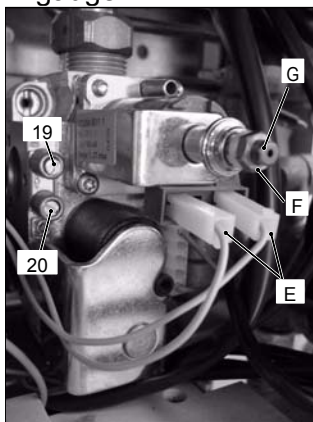

Figure 15.6
- Open the gas valve inlet pressure test point (20 in Fig. 15.6) at the valve input, connect a suitable pressure gauge and check the gas pressure of the supply network.
- Open the gas valve outlet pressure test point (19 in Fig. 15.6) and connect the gauge.
- Rotate the maximum gas pressure adjustment (F in Fig. 15.6) until you obtain the required pressure (by rotating clockwise the pressure increases).
- Turn the boiler off and disconnect one of the two connectors (E in Fig. 15.6).
- Start the boiler and rotate the minimum gas pressure adjustment (G in Fig. 15.6) until you obtain the required pressure (by rotating clockwise the pressure increases).
- Open the gas valve outlet pressure test point 19 (figure 15.6) and connect the gauge
- Close the gas valve outlet pressure test point 19 (figure 15.6).
- Open the gas valve outlet pressure test point 19 (figure 15.6) and connect the gauge.